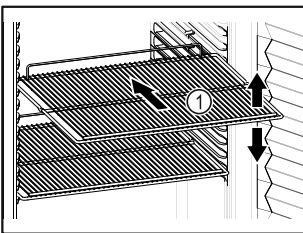

Fig. 58
- ☐ If there are adjustable shelves Fig. 58 (1), position them as required.